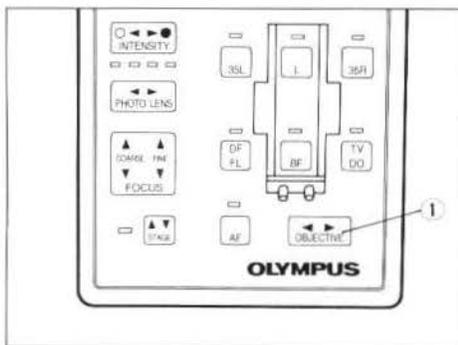

Fig. 24
Press the OBJECTIVE button ① on the control panel or control box, until the 10X objective is engaged. (Fig. 24)